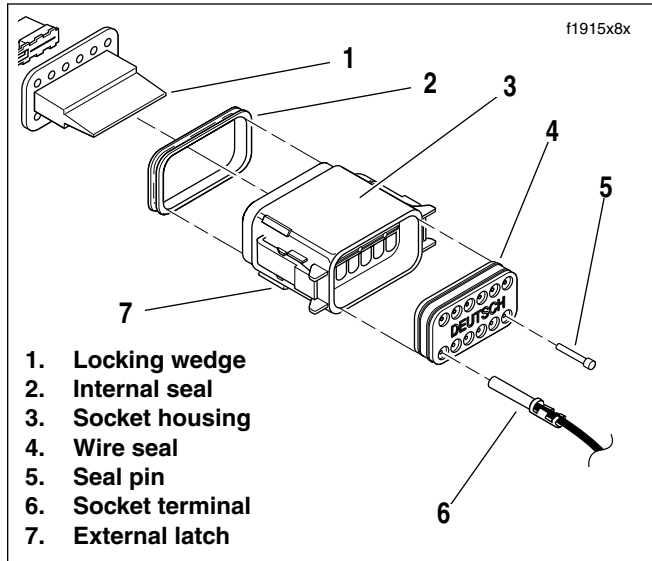

Figure 2-14. 12-place Deutsch Socket Side Connector
- a. See Figure 2-14. Use a screwdriver to pry out the secondary locking wedges. See DEUTSCH ELECTRICAL CONNECTORS in Touring Models Service Manual.
14. Reinstall boot (8) on each switch control harness. Secure with cable strap (5).
15. See Figure 2-14. Fit wire seal (4) into back of Deutsch socket housings (3). See DEUTSCH ELECTRICAL CONNECTORS in Touring Models Service Manual.